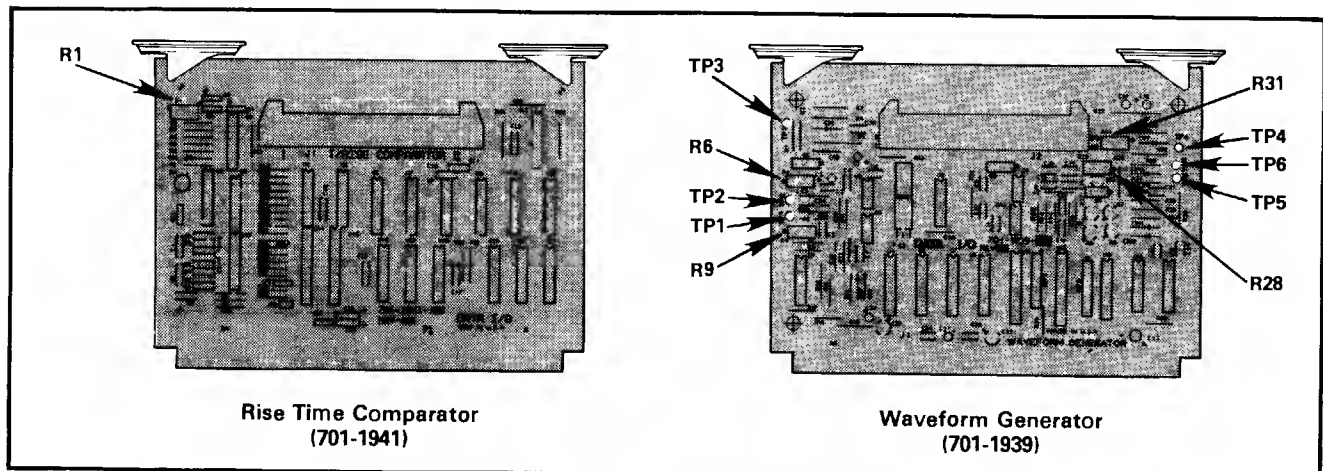

Figure 4-3. LogicPak™ Test and Adjustment Locations
- The adjustment potentiometers on the waveform generator and the T/rise comparator card enable you to make adjustments when your measurements do not match the measurement chart; figure 4-3 shows the location of these adjustment points.